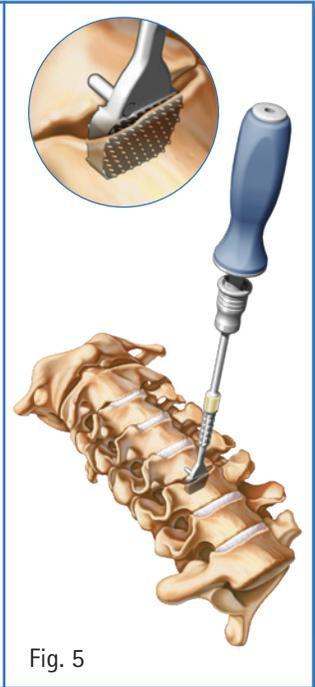

Fig. 5
7. Once the appropriate size and height of the implant has been determined, select the corresponding color-coded rasp. The rasp is used to roughen and expose the end plates and prepare them for the placement of the corresponding sized implant. (Fig. 5)